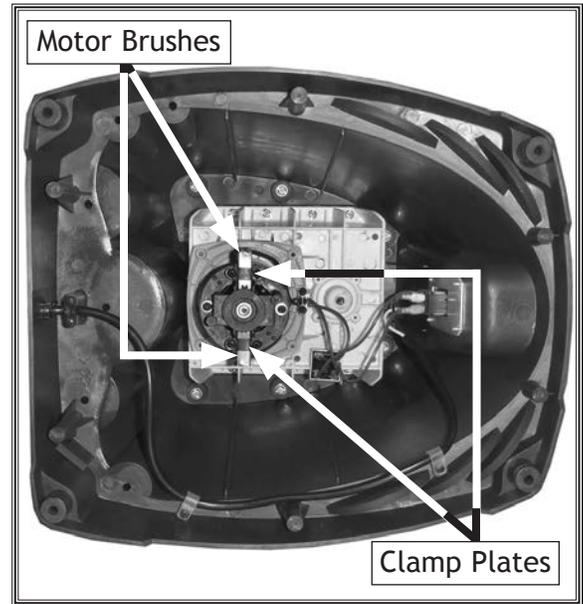

Figure 16. Motor brush location on motor.
4. Loosen the screws that secure the clamp plate over the brush assemblies (see **Figure 16**) but do not completely remove the plate.